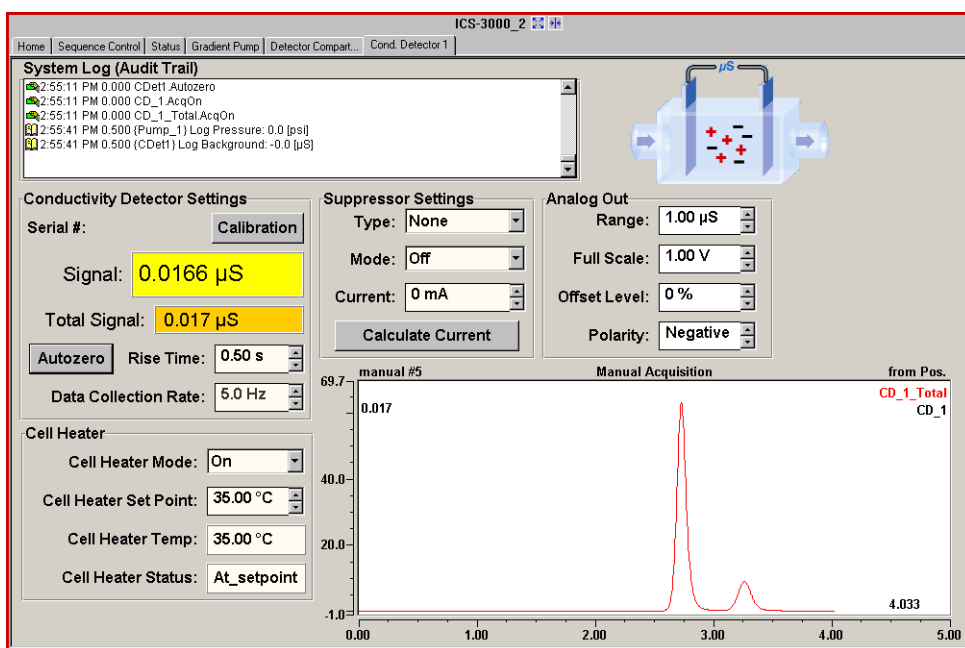

Figure 5-6. Manual Data Acquisition
4. The signal plot is displayed on the **Detector Control** panel (see Figure 5-6). Monitor the chromatogram and when sample data has been collected, click **Acq Off**.